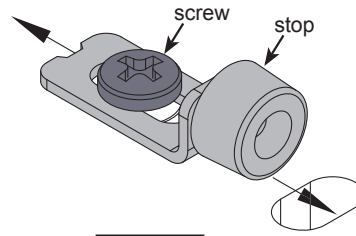

Figure 15
1. To adjust, loosen the Phillips screw slightly with a screwdriver. **Figure 15.**